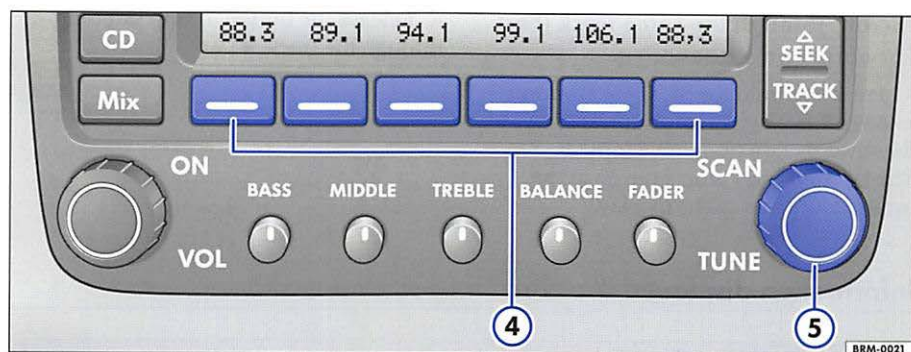

Fig. 23 SCAN/TUNE button
- Briefly press the **SCAN/TUNE** button ⇒ **fig. 23 5** to start automatic scanning to the next track within the current folder or play list. After 10 seconds, scanning will resume and go to the next track. **SCAN** appears in the display and the file information available will be scrolled in the display.